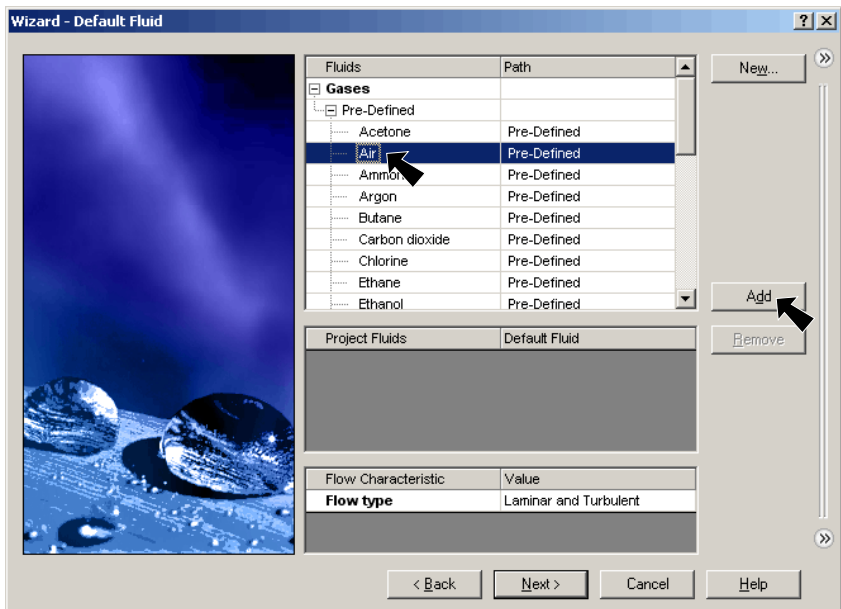

Fig. 6
Step 13. **Default Fluid:** Expand Gases, select **Air** and click **Add**, **Fig. 6**.